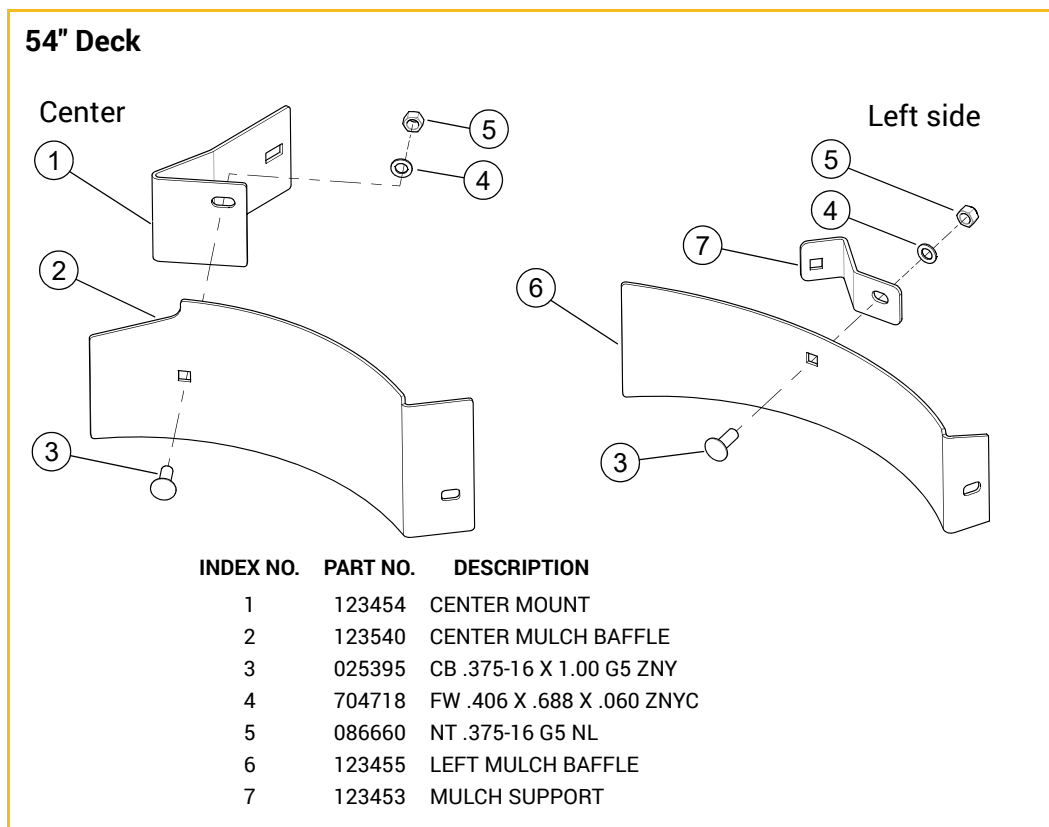

FIG. 1
4. **54" Decks:** Attach the center mount to the center baffle, and the mulch support to the left baffle using the provided hardware. (FIG. 1)